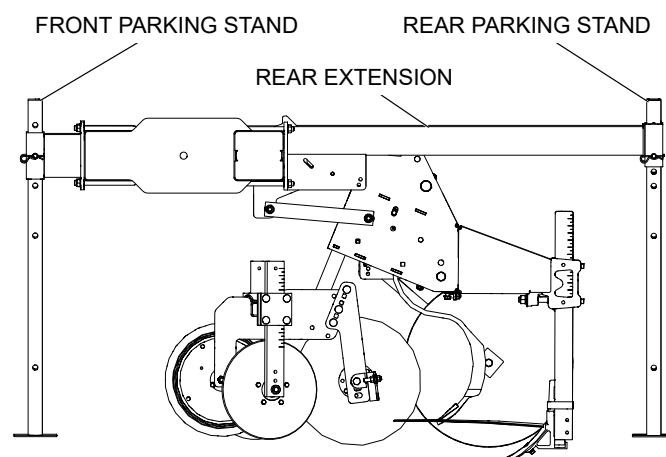

Figure 10 Front & Rear Parking Stands
6. Lower front parking stands to the ground and pin in position so that parking stands will be vertical when the tractor is removed. See Figure 10.